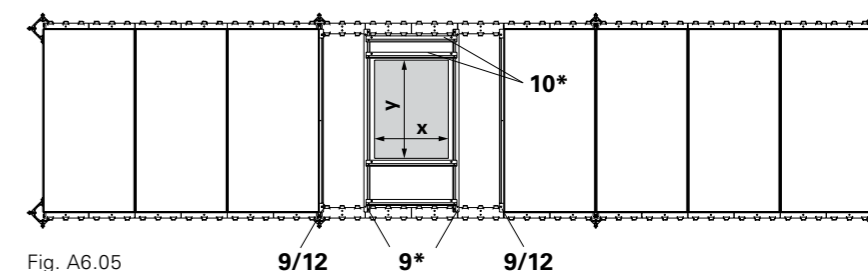

Fig. A6.05
Install Edge Beam SRT 150-2 (9) vertically at the panel edge. Insert Edge Beam SRT 150-2 (9\*) in a suspended position at the column. Likewise, insert Edge Beam SRT 75-2 (10\*) in the Edge Beam (9\*) in a suspended position. (Fig. A6.05 + A6.06)